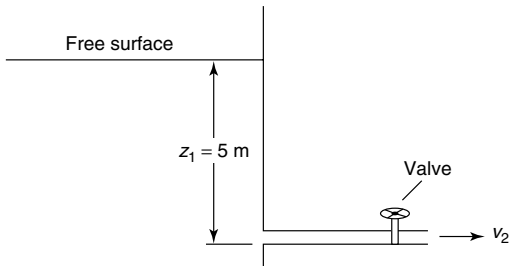

Figure 22.12
Problem 2. A storage tank contains oil whose free surface is 5 m above an outlet pipe, as shown in Figure 22.12. Determine the mass rate of flow at the exit of the outlet pipe, assuming that (a) losses at the pipe entry = $0.4 v^2$, and (b) losses at the valve = $0.25 v^2$.
1. If in the storage tank of worked problem 2 on page 254, Figure 22.12, $z_1 = 8$ m, determine the mass rate of flow from the outlet pipe. [7.995 kg/s]
2. If in the storage tank of worked problem 2, page 254, Figure 22.12, $z_1 = 10$ m, determine the mass rate of flow from the outlet pipe. [8.939 kg/s]